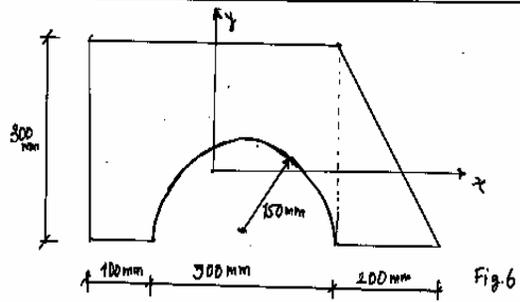

Fig. 6
- Q.4** (a) Determine the location of centroid,  $I_{XX}$  and  $I_{YY}$  of lamina shown in **Fig.6**. **07**